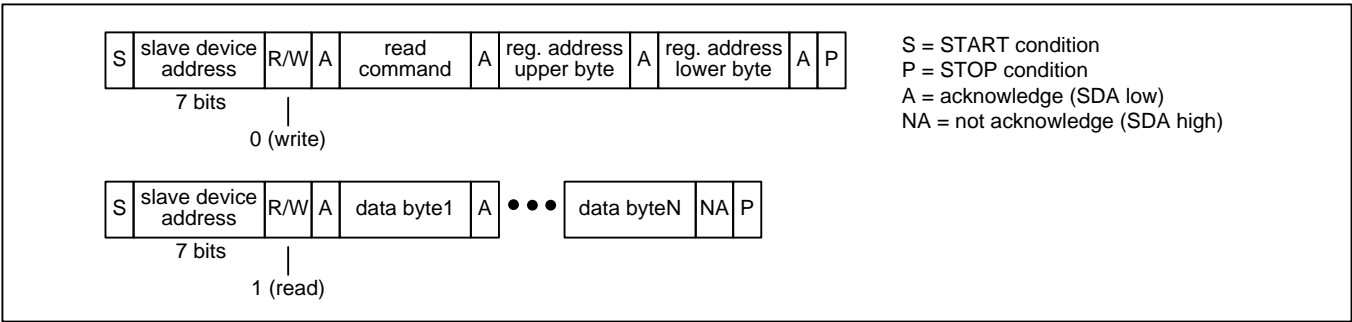
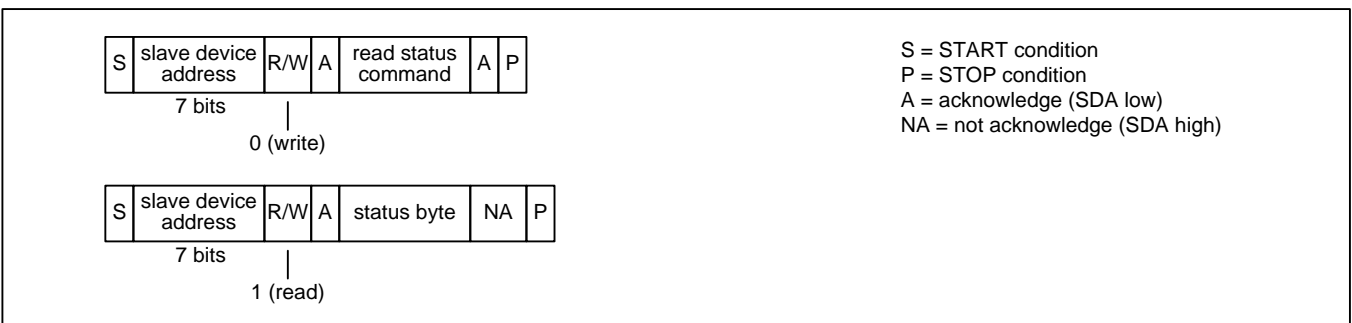

Figure 10 – I²C Read Transaction Functional Timing
Figure 13 – I²C EEPROM Read Status Transaction Functional Timing
Read Transactions. The device registers are accessible when **EESEL=0**. The internal EEPROM memory is accessible when **EESEL=1**. The bus master first does an I²C write to the device. In this transaction three bytes are written: the SPI Read command (see Table 3), the upper byte of the register address, and the lower byte of the register address. The bus master then does an I²C read. During each acknowledge (A) bit the device fetches data from the read address and then increments the read address. The device then transmits the data to the bus master during the next 8 SCL cycles. The bus master terminates the read with a not-acknowledge (NA) followed by a STOP condition (P). See Figure 10. Note: If the I²C write is separated from the I²C read by other I²C transactions then the device only outputs the data value from the first address and repeats that same data value after each acknowledge (A) generated by the bus master.
EEPROM Read Status. The bus master first does an I²C write to transmit the SPI Read Status command (see Table 3) to the device. The bus master then does an I²C read to get the status byte. In this byte, the least significant bit is set to 1 if the transfer is still in progress and 0 if the transfer has completed. See Figure 13.
Note: In Figure 10 through Figure 13, a STOP condition (P) immediately followed by a START condition (S) can be replaced by a repeated START condition (Sr) as described in the I²C specification.